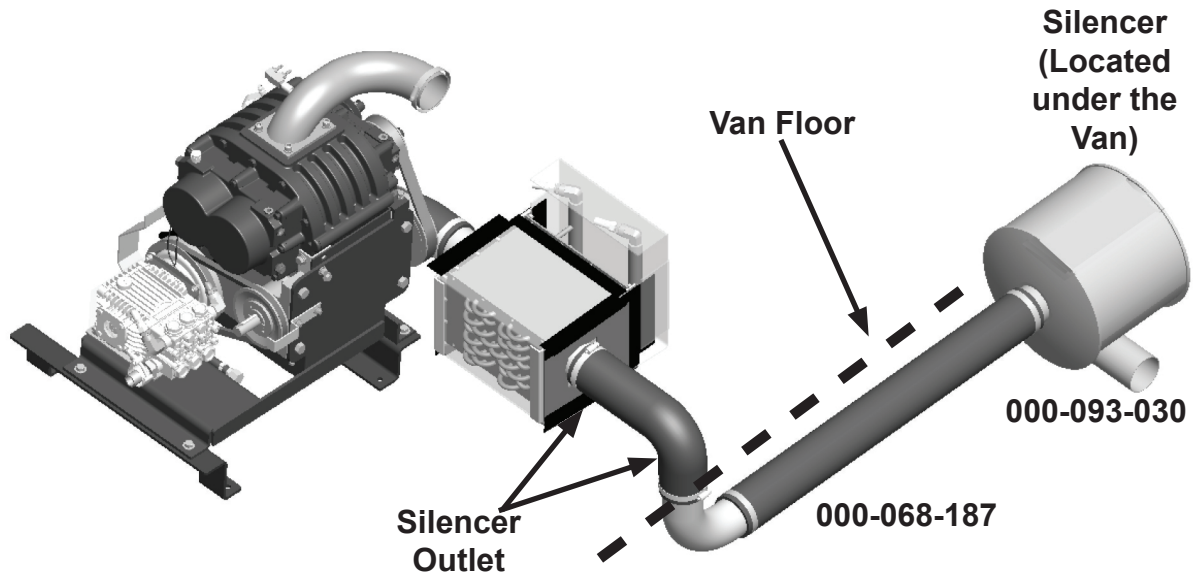

Figure 39. Attach Long End of Elbow to Hose Assembly and
5. Install the 30" hose assembly (P/N 000-068-187) onto the elbow and then install the silencer (P/N 000-093-030) under the van (see Figure 39). Secure with hose clamps. Depending on the van model, the silencer may span the "rib" of the floor or bolt directly to the van floor.